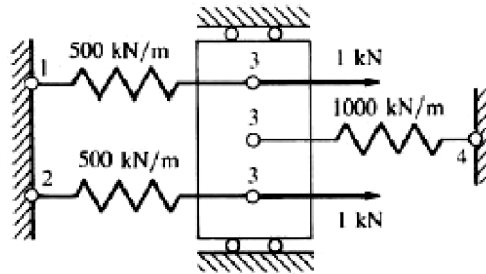

Figure 1
- Q.1 (a)** For the spring assemblages shown in Figures 1, determine the nodal displacements, the forces in each element, and the reactions. 07